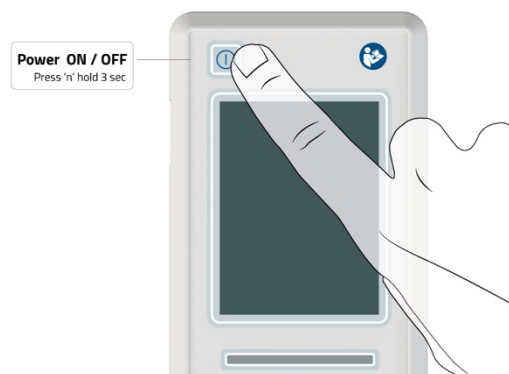

Figure 31: Turn off TrachFlush
**Step 3:** Turn off the TrachFlush device by pressing and holding the Power ON/OFF button for 3 seconds as shown in Figure 31 below.